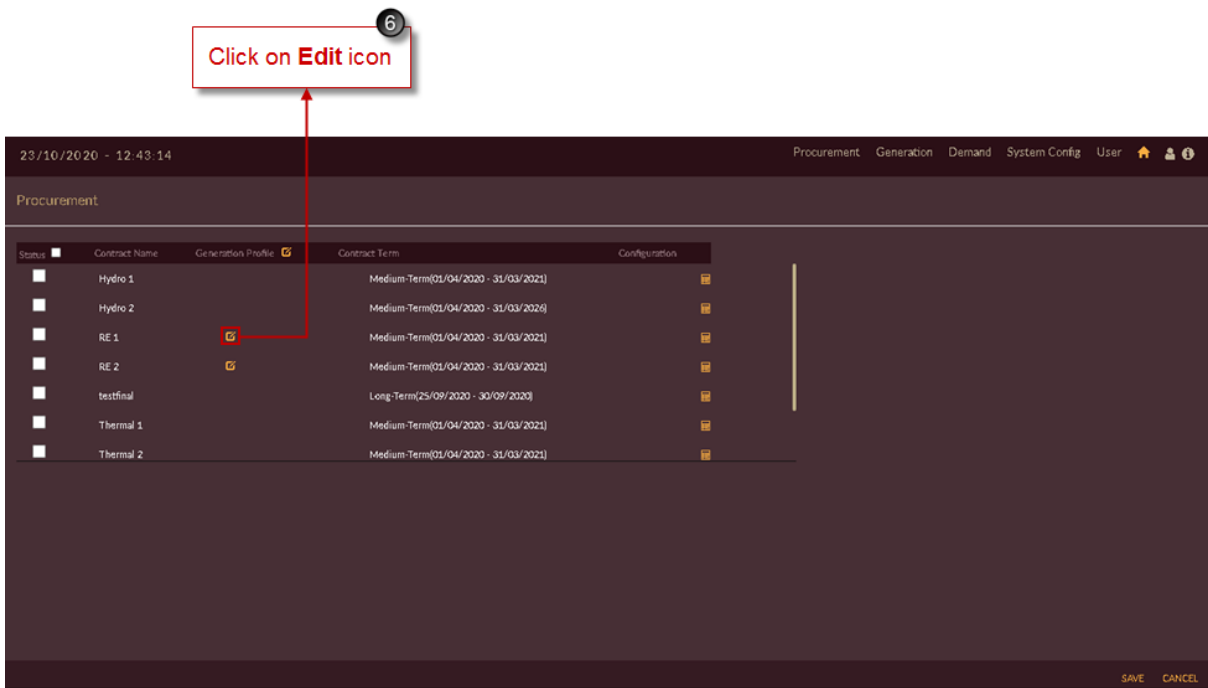

Figure 271. Edit/View Configured RE Contract Generation Portfolio
6. Click on **Edit**  icon of respective RE contract plant for which you want to see or edit the data. Here **RE 1** contract plant is selected in Figure 271.